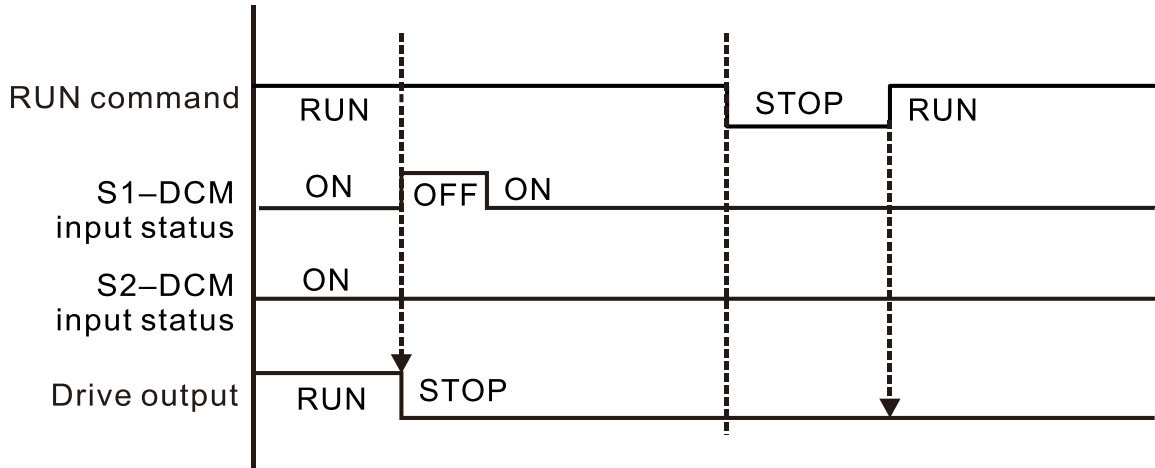

Fig.17-8
As shown in Fig. 17-8, when S1-DCM is OFF during operation (STO function is required) and S2-DCM is ON (STO function is not required), the drive stops outputting, and the keypad shows the STL1 error. However, you cannot reset the STL1 error even if the S1 status is restored (ON) regardless of the parameter setting. You must cycle the power to reset and to restore the drive to the normal standby state.